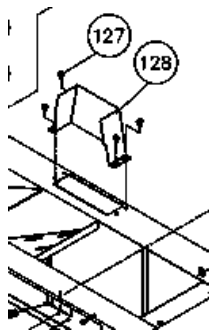

FIGURE 7: Pulley Cover
9. Install the pulley cover using four  $\frac{1}{4}$ -20 x  $\frac{1}{2}$ " bolts through the cover and into the base. Shown in Figure 7.